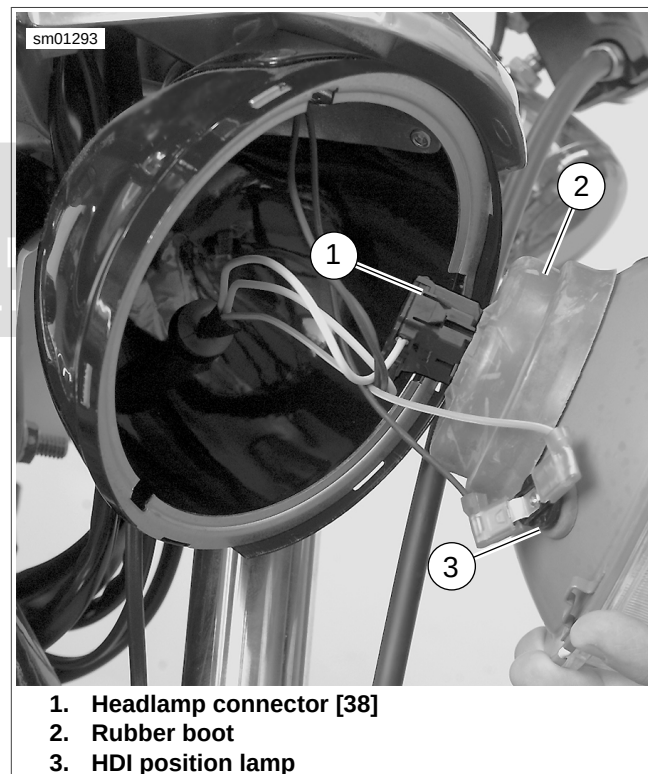

Figure 6-58. HDI Headlamp (XL 1200R Shown)
8. Pivot the retaining clip (4) over the bulb (9) and press the ends into the retaining post.
9. Install rubber boot (3) with word TOP over top notch. Press center ring down flush with base of bulb.
10. See Figure 6-58. If replacing the small position lamp (3) in the side of the reflector/lens on HDI models: